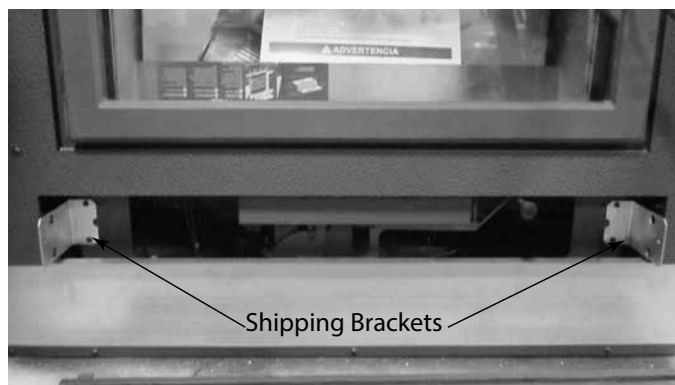

Figure 2.5 Remove Shipping Brackets
2. Remove the two (2) shipping brackets and discard them. See Figure 2.5.